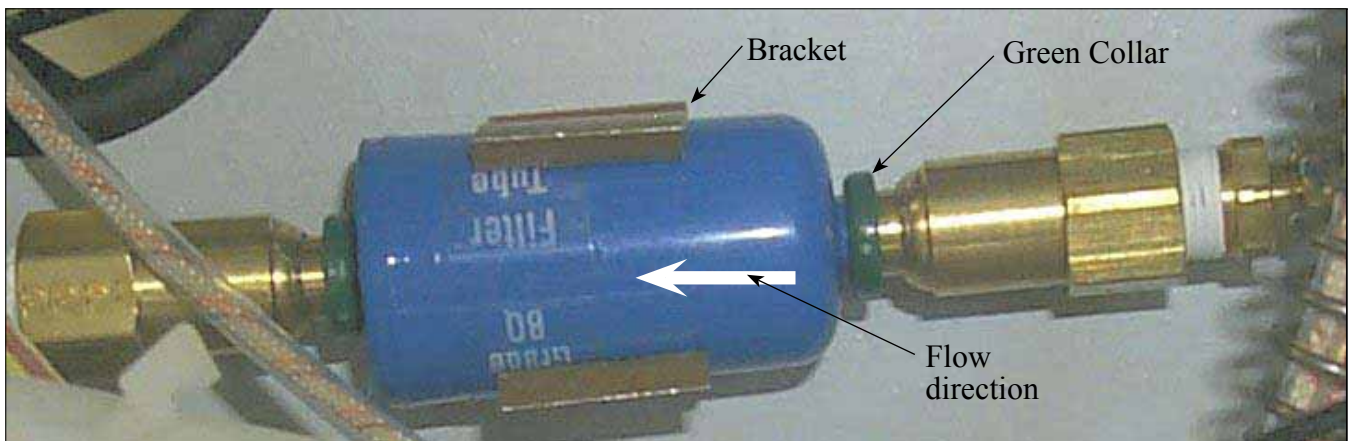

Figure 7
9. To replace the disposable filter unit, pull the filter out of its bracket (see Figure 7).